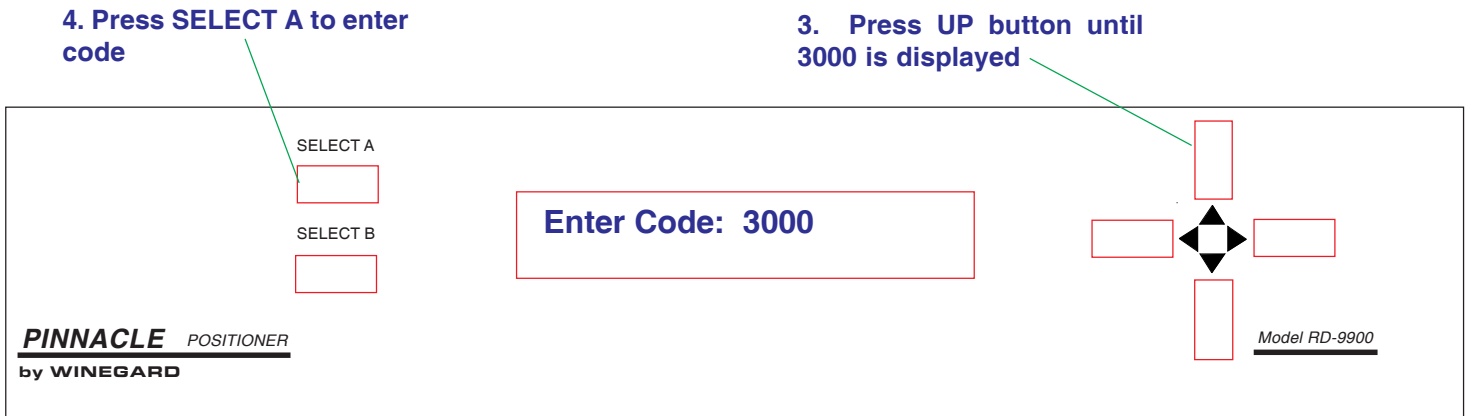

Figure 22
4. Press [UP] arrow button until 3000 is displayed. See Figure 22.
5. Press [SELECT A] to enter code. See Figure 22.